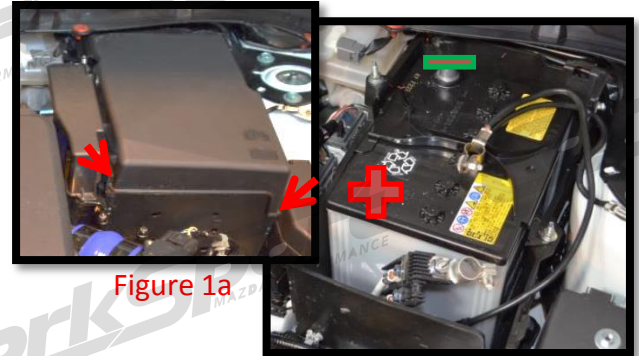

Figure 1a
- a) Remove the battery cover. (Red arrows in Figure 1a)
- b) Use a 10mm socket to remove the negative battery terminal (negative shown in Figure 1a).
- j) Use a 10mm socket to reinstall the negative battery terminal (negative shown in Figure 1a).
- a) **Remove the battery cover.** Remove the plastic battery cover by prying out the two tabs on the sides (red arrows in Figure 1a), and lift the cover upward.
- b) **Use a 10mm socket to loosen the negative battery terminal** (negative shown in Figure 1a). Remove the terminal from the battery and tuck it away safely.